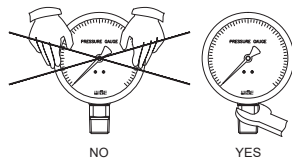

Figure 6
- 7) When installing a gauge on the pipe, do not turn the gauge by holding its case. The user must use a proper spanner. (Figure 6)